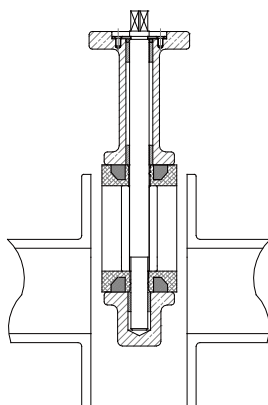

Fig. 1
- Carefully place the butterfly valve between the flanges, with the disc in closed position. (Fig. 1)